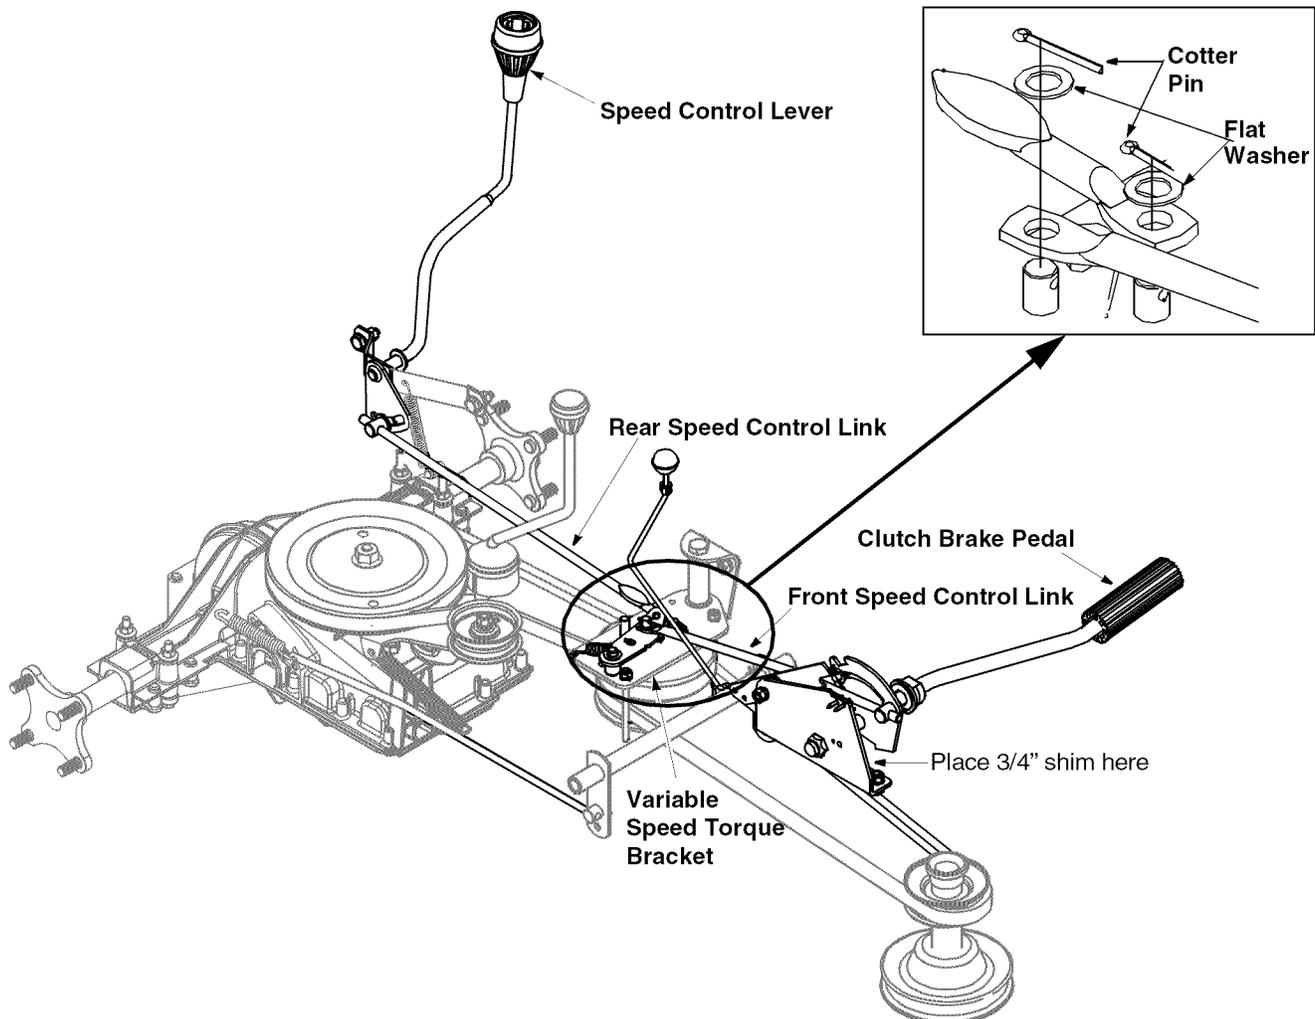

Figure 21
(See Figure 21 )
- Place a 3/4" shim or other suitable object under the point on the bracket on the clutch-brake pedal as shown in Figure 21 .